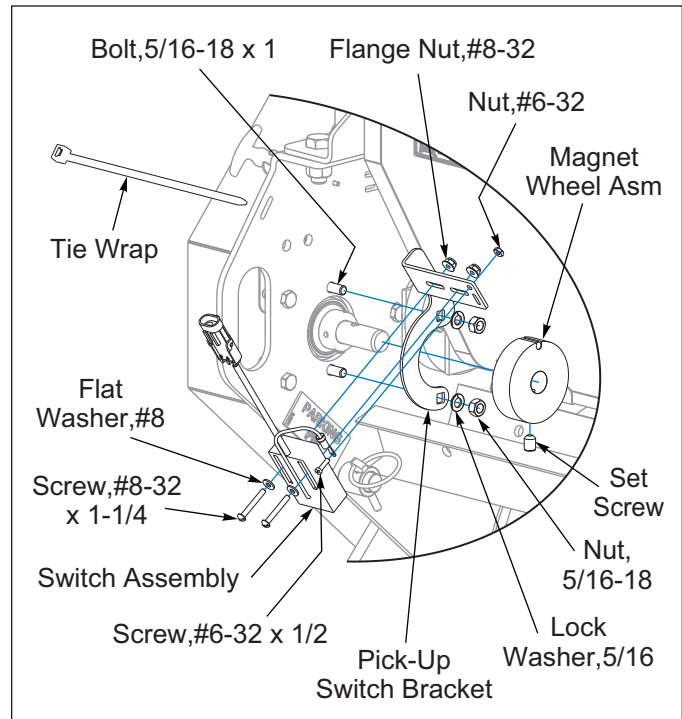

Figure 2-11: Pick-Up Switch Bracket
3. On the Seeder back left side, install the Pick-Up Switch Bracket with the Transmission Shaft Bearing Bolts, Lock Washers and Nuts. **See Figure 2-11.**